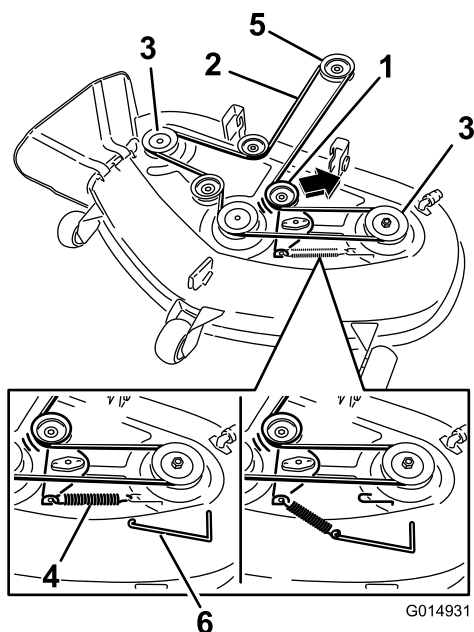

Figure 57
4. Using a spring-removal tool (Toro part no. 92-5771), remove the idler spring from the deck hook to remove tension on the idler pulley, and roll the belt off of the pulleys (Figure 57).
- Route the new belt around the engine pulley and mower pulleys (Figure 57).
- Using a spring-removal tool (Toro part no. 92-5771), install the idler spring over the deck hook, and place tension on the idler pulley and mower belt (Figure 57).